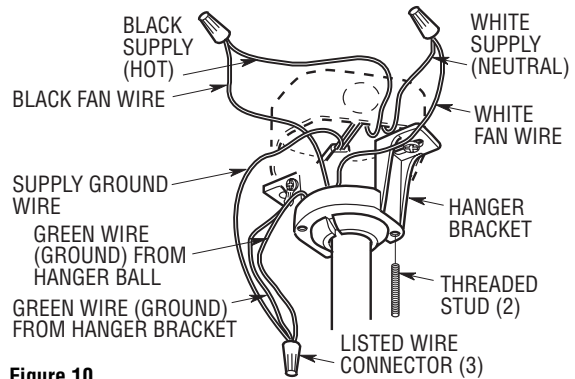

Figure 10
- 1. Connect the green grounding wire from the hanger ball, the green grounding wire from the hanger bracket to the grounding conductor of the supply (this may be a bare wire or wire with green colored insulation). Securely connect wires with wire connectors (supplied) (Figure 10).
- 2. Securely connect the fan motor white wire to the supply white (neutral) wire using wire connector supplied (Figure 10). Securely connect the fan motor black wire to the supply black (hot) wire using wire connector supplied (Figure 10). After connections have been made, turn leads upward and carefully push the leads into the outlet box, with the wires spread apart and the white and green leads on one side of the outlet box and the black leads on the other side of the outlet box.